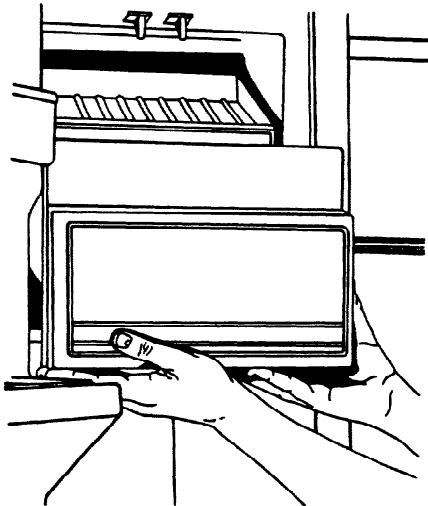

Figure 84
c. Lift up slightly on ice bin and pull out. Thaw/discard ice and return bin to freezer. See Figure 84.